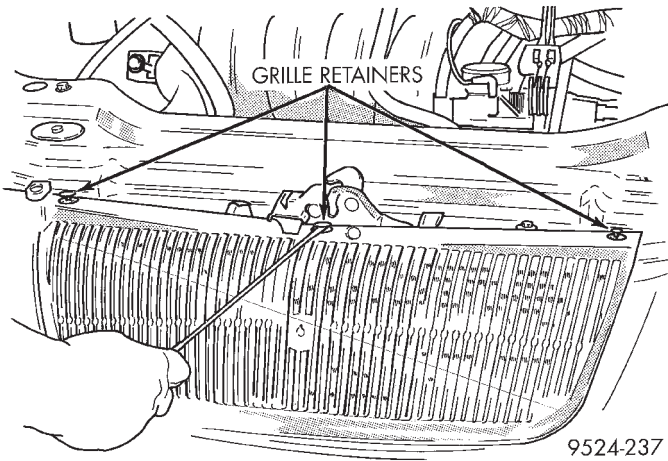

Fig. 24 Grille Retainers
- (1) Remove refrigerant from the A/C system using a refrigerant recovery machine.
- (2) Disconnect and cap A/C lines at the condenser.
- (3) Remove grille retainers (Fig. 24). Refer to Group 23, Body for removal procedures.